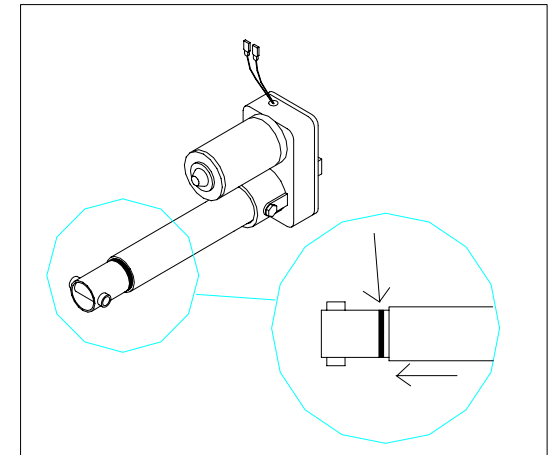

Figure 4. Calibrate mechanically.
4. Adjust the incline motor set mechanically as shown in Figure 4. Twist the thin pipe so that its red line is even with the end of the thick pipe. This completes calibration to the mechanical 0% position.